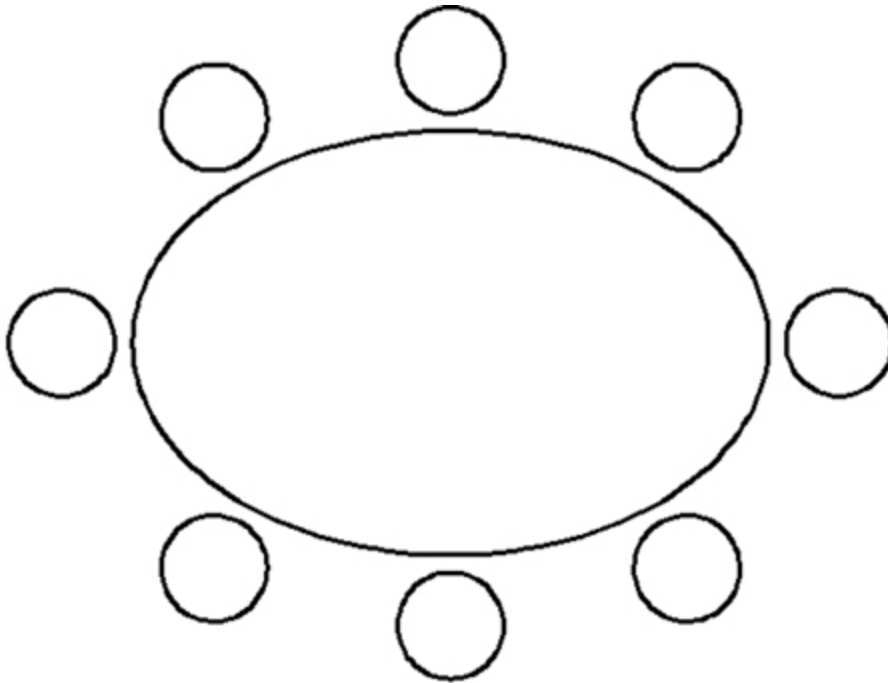

Figure 8-12
- 10** Press **<Enter>** again to exit the **Path Array** command. Your drawing should look like Figure 8-12.